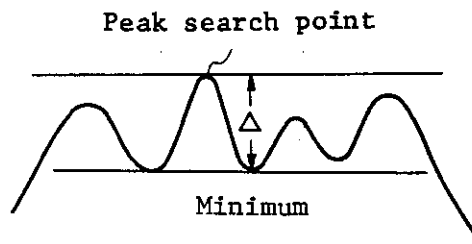

Fig. 5-2 Ripple level
- ⑥ Attenuation measurement
- ⑥-1 If the vertical scale was expanded through the above measurement, to 1 dB/div. for example, return it to 10 dB/div. Press (returns to 10 dB/div.)
- ⑥-2 If the insertion loss of the DUT is too great, the measuring dynamic range is reduced accordingly. To maintain the dynamic range, use a preamplifier at the input of the analyzer. (See Figure 5-2.) Whether the preamplifier is to be inserted in the input or output of the DUT will depend on the condition of the DUT itself.